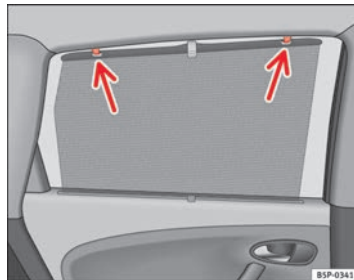

Fig. 82 Rear door sun visor
- Pull out the visor and hook it onto the hooks at the top of the door frame ⇒ Fig. 82.